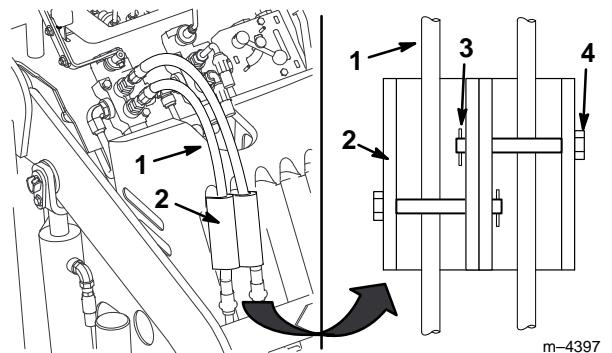

Figure 13
- Install the cylinder locks over the hydraulic hoses and secure them with the clevis pins and cotter pins (Fig. 13).